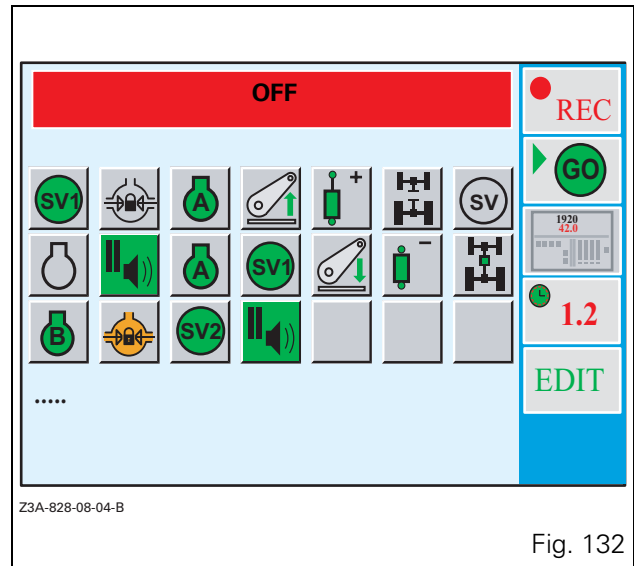
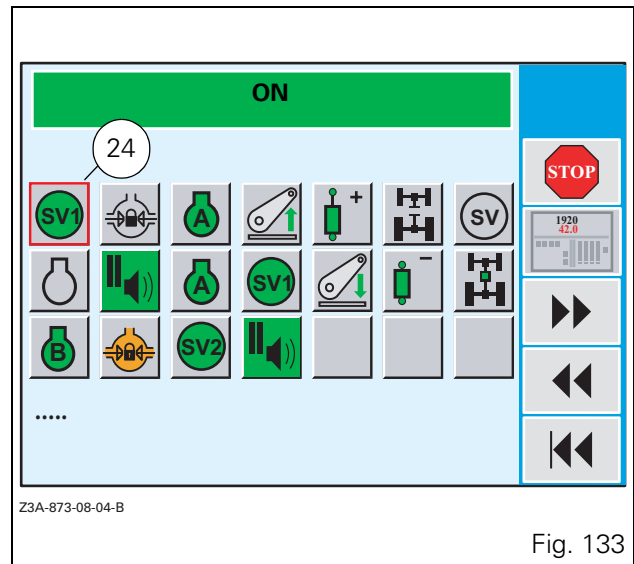
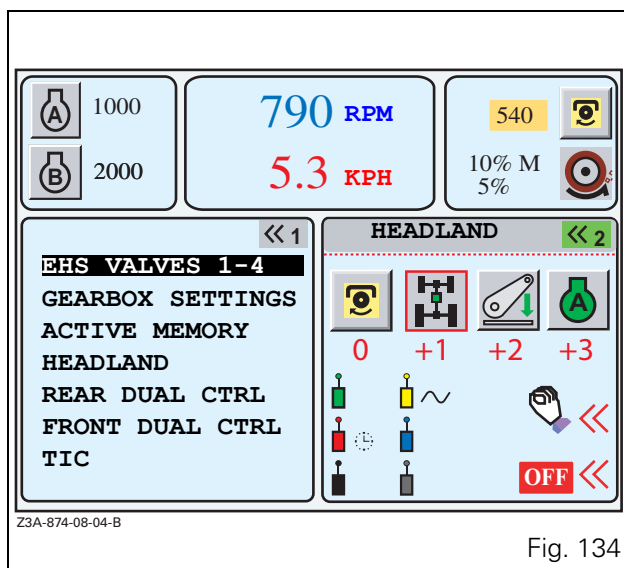

Fig. 132
Fig. 133
Fig. 134
- Press the key \ll_2 (GO) when the window (Fig. 132) is open. A new window is displayed (Fig. 133).
The first icon (first action) is outlined in red (24 Fig. 133).
When the (Fig. 132) window is open, press the key <<4. Pressing this key increases the time delay by 0.2 seconds.
In both reading modes, reading progress can be modified if an action needs to be activated manually (Fig. 133):
When the window (Fig. 132) is open, press the key <<3. The window (Fig. 134) is displayed.
NOTE: For the description of the window (Fig. 134), see paragraph 7.4.6 (HEADLAND menu).